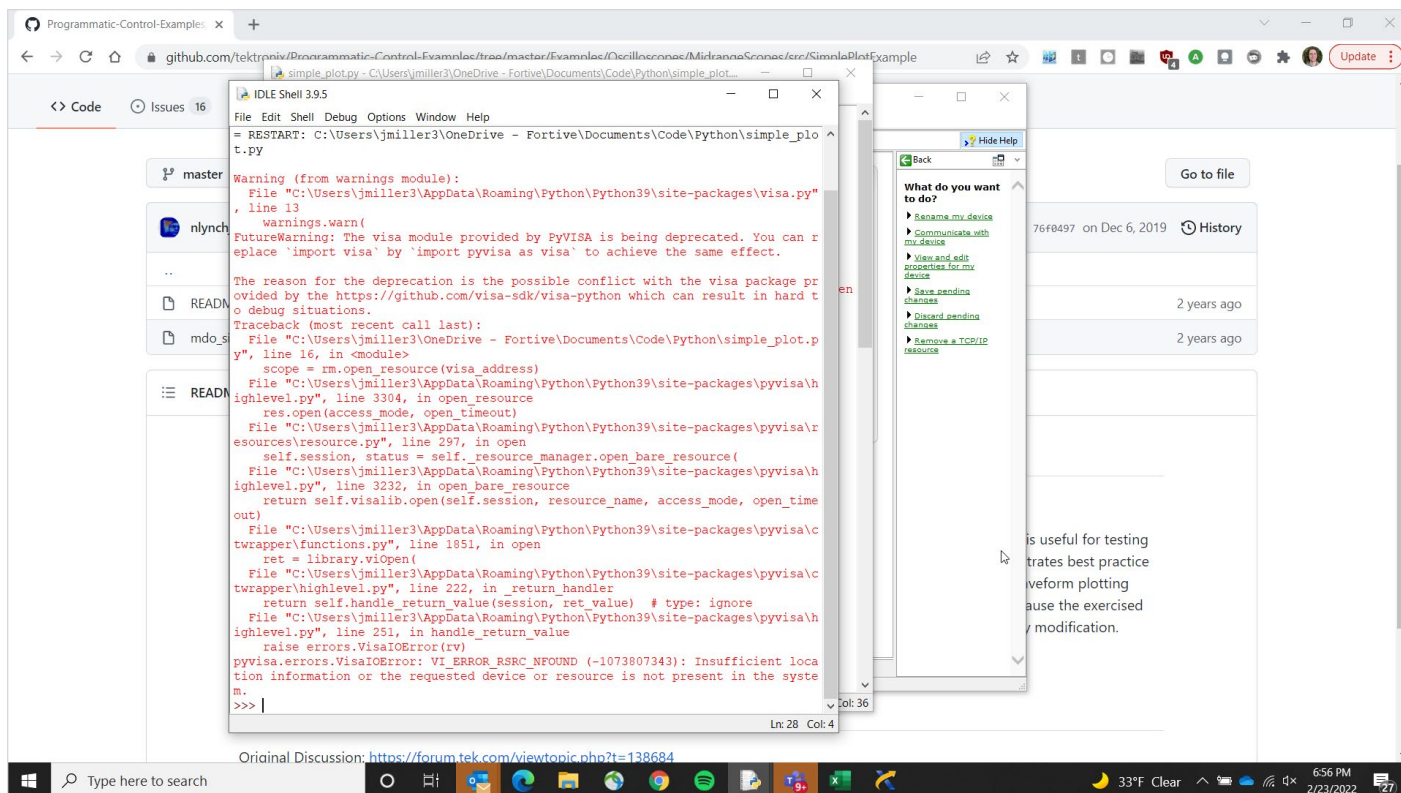

Figure 3. Incorrect VISA Address
3. Run the code to see what happens. There are two ways to do so in IDLE: click Run->Run Module or simply press F5 on the keyboard. The screen in **Figure 3** shows that there is a problem with the code.